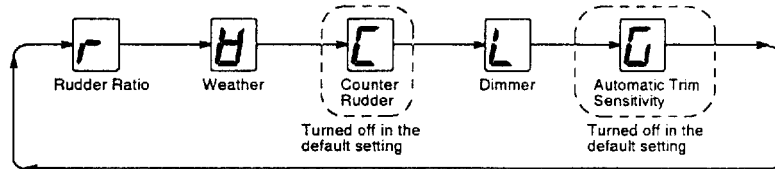

Fig. 4-1 Display for adjusting rudder ratio
1. Hold down **STBY** more than 2 seconds until the display of Fig.4-1 appears